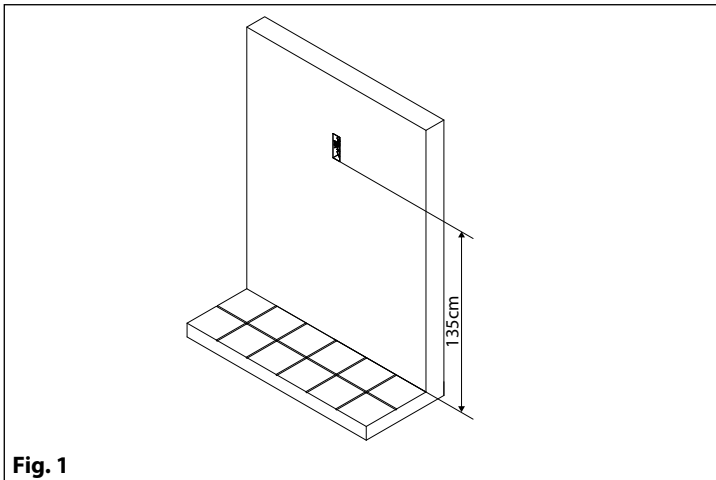

Fig. 1
1. Protect the holes to fix the intercom to the flush mounting box then embed the flush mounting box in line with the wall in vertical position at 135cm height from the floor as shown in **Fig. 1**;